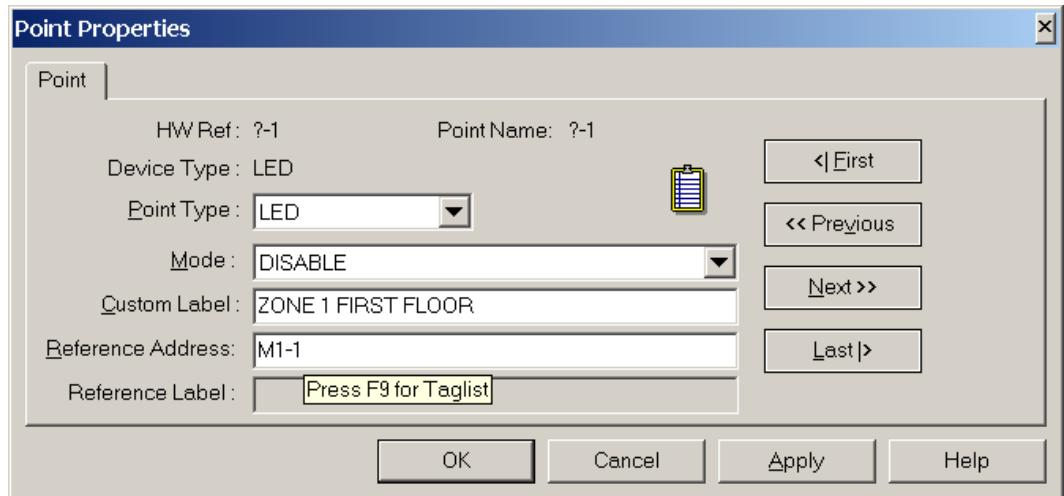

Figure 7-2. Typical Programming Screen for LEDs/Switches
Function Keys (CPU Card only), LED and Switch points can be programmed from either the Hardware Tab or the Point Tab. The Hardware tab lists points on a per-card basis, whereas the Point Tab lists all points in the system. (Figure 7-2 shows the Hardware Tab point editing screen; the Point Tab programming screen is similar. Some fields, such as device type, may only be available from the Hardware Tab point editing screen.)
Hardware Tab	<ol style="list-style-type: none">1. Click on the Hardware Tab. Click on the + signs to the left of the Unit 0, Box1, and Bay1 icons.2. Double click on the card icon labeled (slot4) (xxx) 4100-000-CPU. A card-specific dialog box, containing four tabs, appears.3. Click on the Display tab. A window similar to the one shown in Figure 7-2 appears. Click on the Display checkbox.4. Click on the LED or Switch point.
Hardware Tab	<ol style="list-style-type: none">1. Click on the Hardware Tab. Click on the + signs to the left of the appropriate Unit, Box, and Bay icons.2. Double click on the card icon (LED and Switch Display Card, LCD Annunciator, RCU, SCU, or 24 I/O) containing the LED or switch point you want to edit. A properties window similar to the one shown in Figure 7-2 appears.3. Click on the LED or Switch point.
1. Double click on the card's icon in the Hardware window. A window similar to the one shown in Figure 7-2 appears.